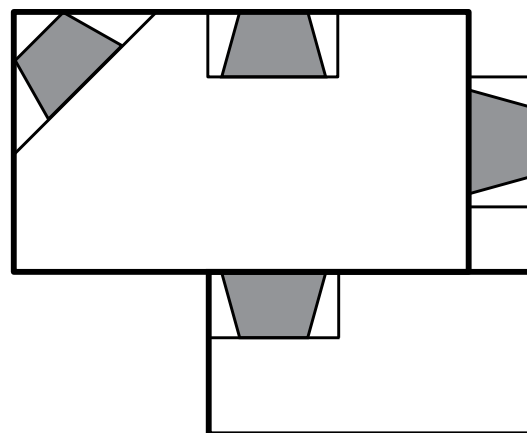

Figure 5. Possible Fireplace Locations
- Minimize modifications to existing construction. Refer to Figure 5 below for location suggestions.